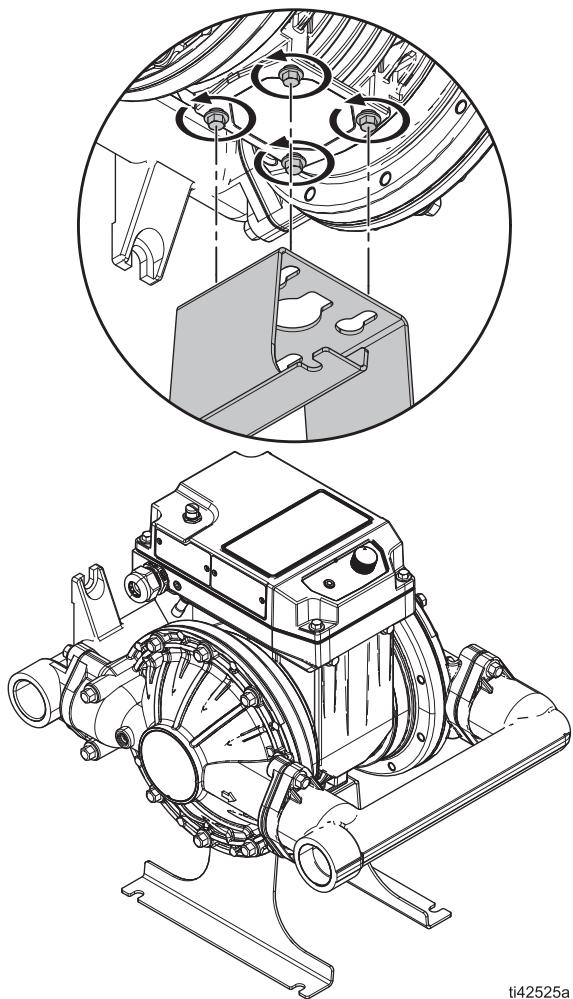

FIG. 2. Maintenance bracket stand
- Ensure that the control knob (22) is turned to off (0).
6. Optional: Mount the back of the pump (opposite side from the motor) to the maintenance bracket stand (see **Maintenance Bracket Stand**, page 52). This positions the pump facing up, enabling easy working access to the pump and motor. The stand can be mounted to a workbench through the mounting holes on the feet. See FIG. 2.